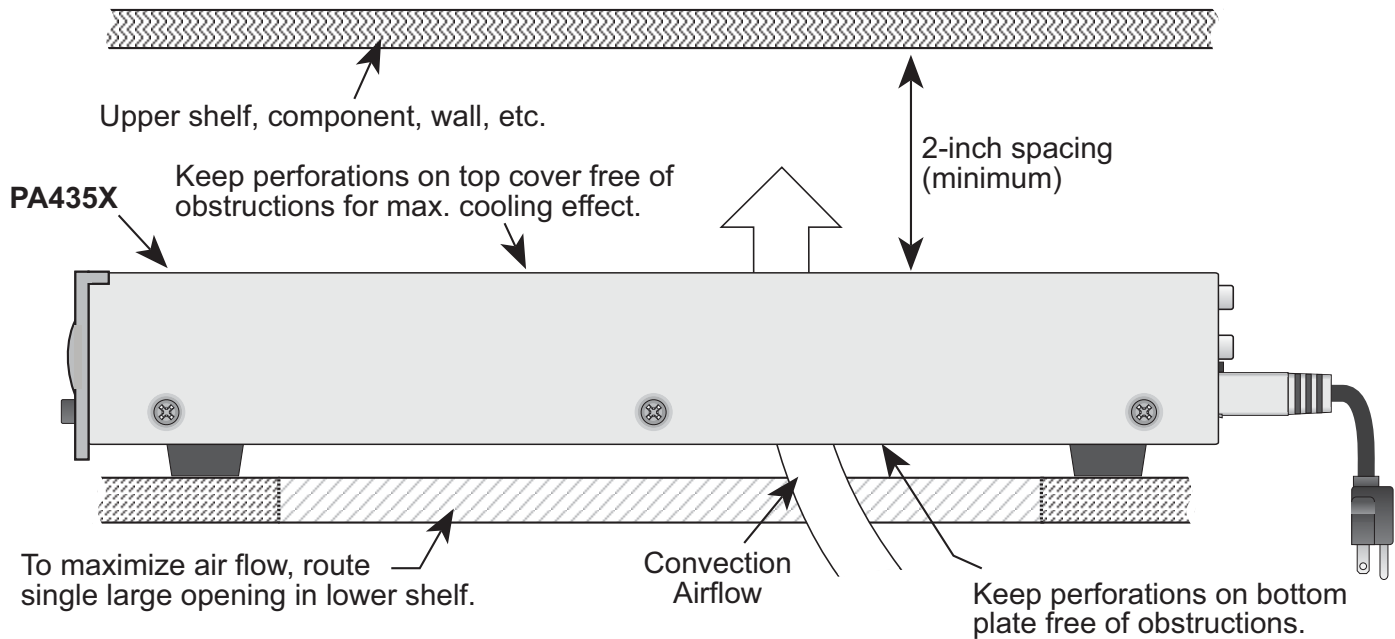

Figure 5 – HORIZONTAL MOUNTING
- a) If the "+" (positive) and "-" (negative) terminals on your speakers are correctly marked, and visible, and you have wired the system as shown in Figs. 5 and 6, then the system will be "in phase". No further action is required. Most manufacturers identify the positive terminal with a red binding post, a "+" sign, or a red dot.